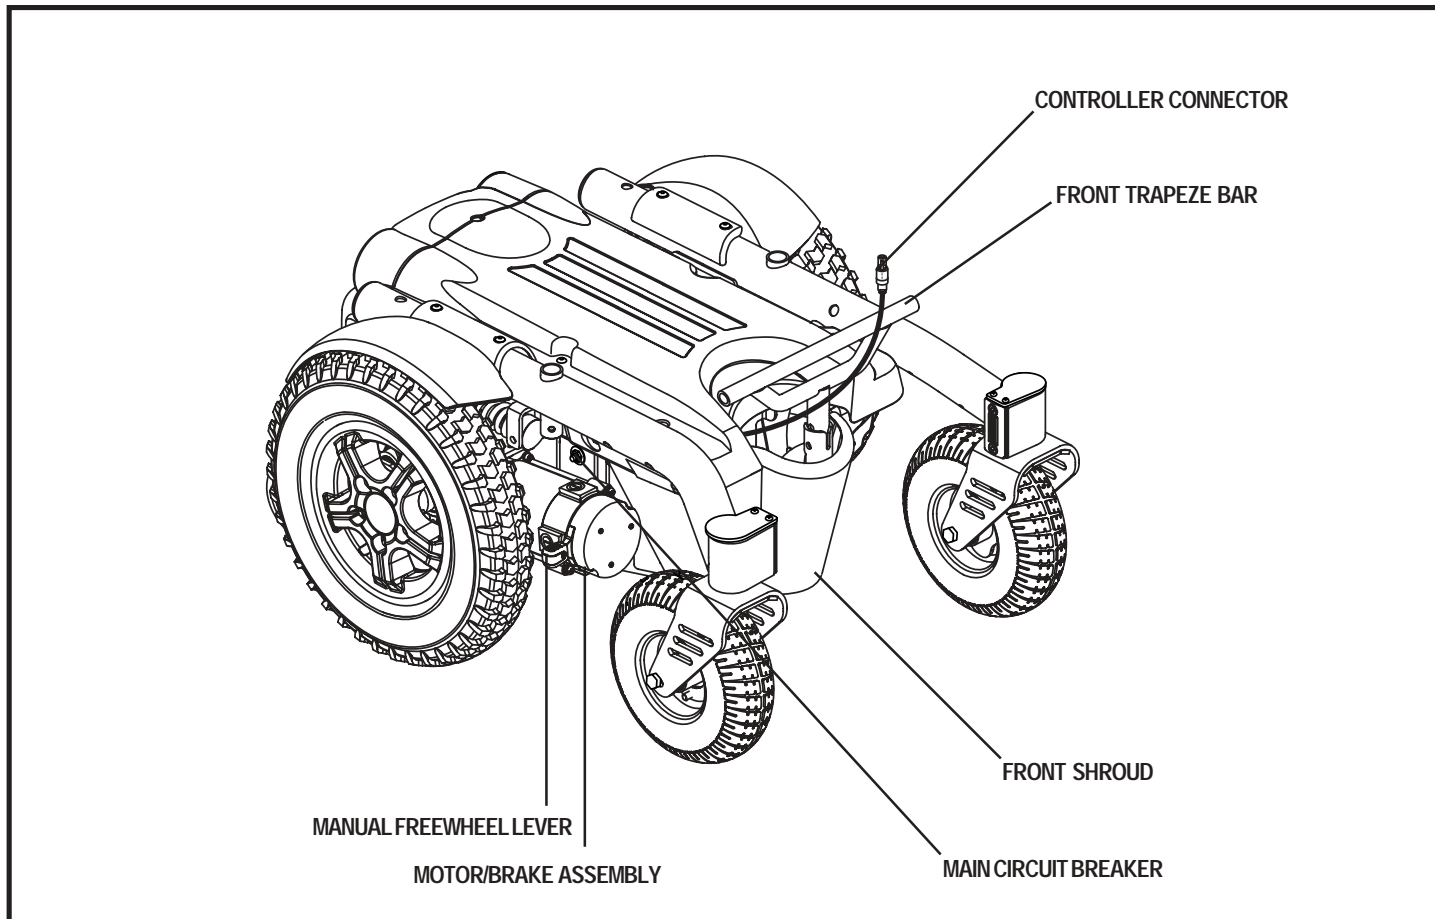

Figure 6. The R-4000 Power Base
The electrical components are located on the front of the power base. See figure 6.
Controller Connector: This is where the controller connects to the power base. The controller connector is located at the front of the power base. See figure 6.
3. Plug the controller cable into the connector. See figure 6.